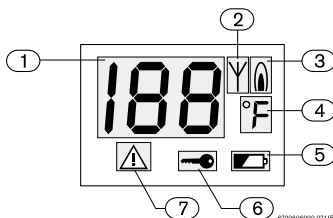

Fig. 2 Multifunctional LCD
indicated by an error code that will appear on the display (Fig. 2, pos. 1) and by a symbol indicating a "safety block" (Fig. 2, pos. 7). The device will be operative once again following the elimination of the fault and after pressing the reset button.
When batteries are flat, the symbol (Fig. 2, pos. 5) will appear on the display.